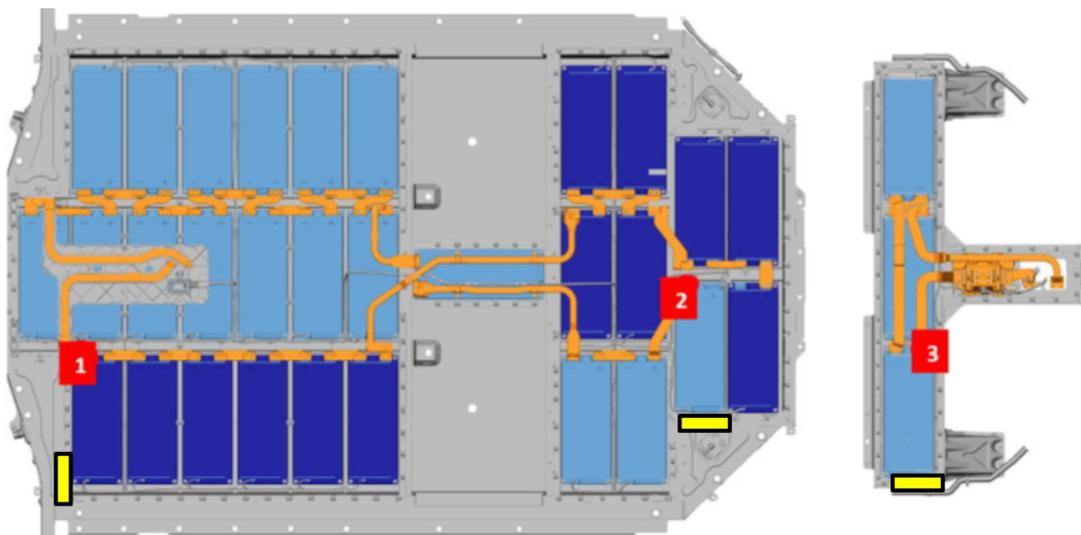

Figure 2 - 33-module HV Battery measurement points
DST Procedure for 33-module Taycan Battery Pack (Figure 2)
- ▷ Repair scopes in only the upper "T" section require an initial DST (in addition to the points in *figure 2*) at the mid-pack fuse as shown in step 3.9.3 of Safety test after assembly work on the high-voltage battery with 33 modules in WM 270803A5. Only proceed with removing lower lid if this initial DST fails.
- The yellow boxes in *Figure 2* designate the section of laser clean surface (silver stripe) to contact using the negative probe to ground the dielectric strength tester. If performing a DST on the mid-pack fuse, use the location on the upper "T" section to ground the negative probe.